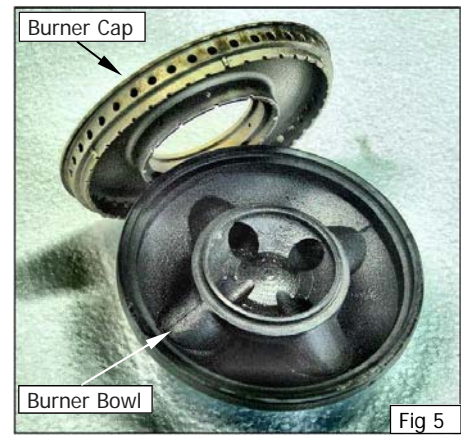
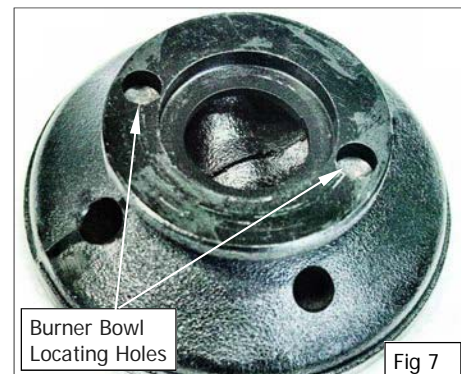
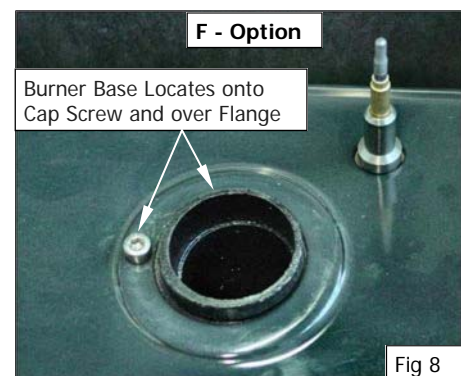

Fig 5
Fig 7
Fig 8
- b. Remove burner cap and burner bowl (these are a loose fit to manifold, see Fig 5) from top of gas manifold, taking care not to damage thermocouple (and pilot tube - PF Option) fitted through manifold splash guard. (Refer to Fig 8 for 'F' Option and Fig 9 for 'PF' Option).
**NOTE:** Burner bowl (cast item) has 2 locating holes drilled into base flange (See Fig 7) these are to locate burner bowl onto cap screw on gas manifold when re-fitting burner bowl onto gas manifold (Refer to Fig 8 {F-Option} and Fig 9 {PF-Option}).